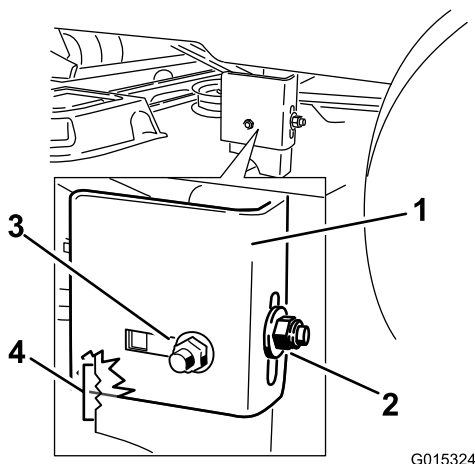

Figure 54
9. Loosen the rear locking nut on the hanger bracket (Figure 54).
10. Loosen the side locking nut on the hanger bracket just enough to allow the hanger to be adjusted (Figure 54). Use the notches on the welded bracket to measure the amount of adjustment. Each notch surface is
11. Stop the deck at the adjusted position and tighten the side locking nut on the hanger bracket to hold the new position (Figure 54). Tighten the rear locking nut on the hanger bracket.